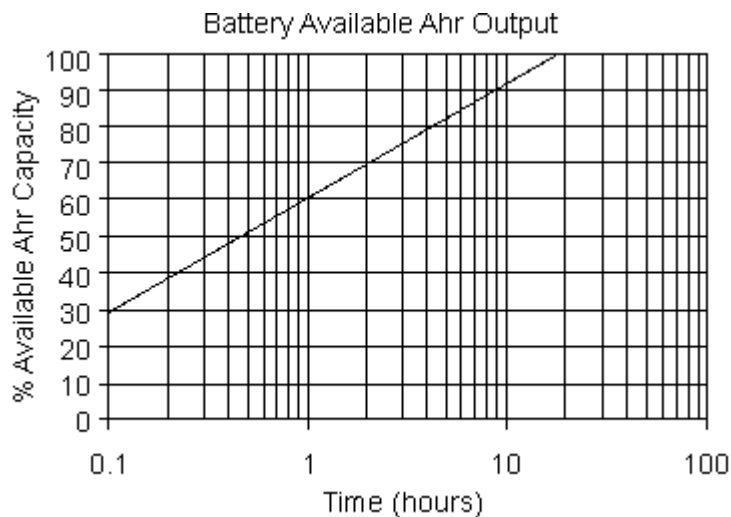

Figure 3.1
- **Time:** The amount of time required for the power to be supplied to the load so that it can function well. Number of hours or part there of. Use the typical, Battery Available Ahr Output chart (figure 3.1) Please consult battery manufactures specifications as data may vary from this chart.
- Look at Figure 3.1. The discharge time, in this case 8 Hrs, shows that approx. 90% of the 17Ah will be available from a fully charged battery